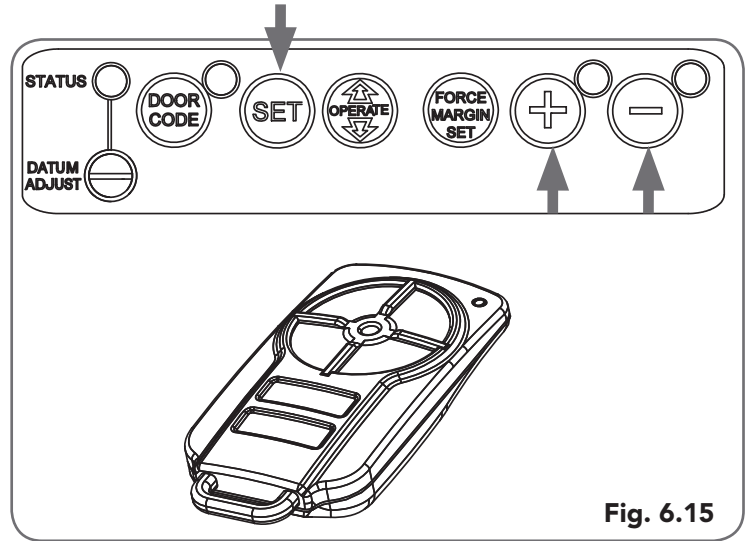

Fig. 6.15
- Press and hold the MINUS (-) button - the door should start closing. **(Fig 6.15)**